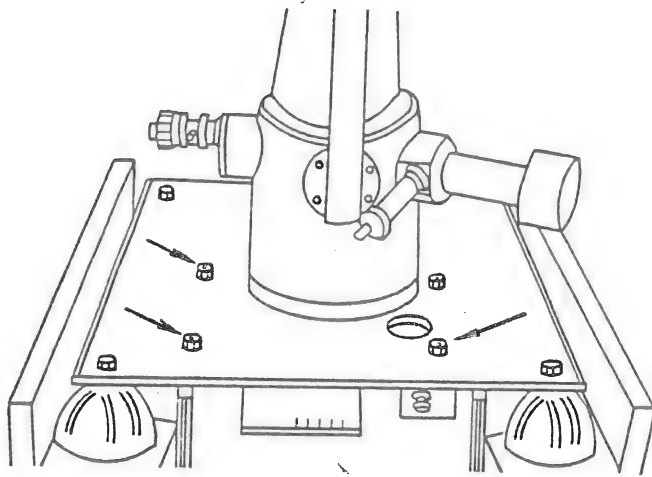

Fig. 5-10
(1) After turning off the EVAC main switch, wait for a while until DP is cooled down. Detach in advance connectors of PC board which may interfere with the removal of DP and valve unit.
(2) Insert wooden blocks below DP so as not to drop DP directly. Have at least two workers carry the DP and valve unit, since they are heavy.
(3) Detach three screws indicated by arrows in Fig. 5-10.